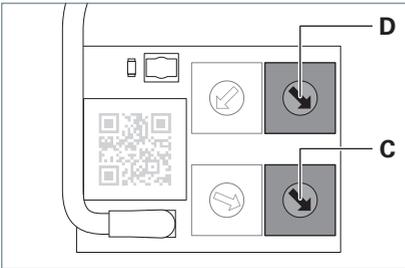

Fig. 7: Two rotary coding switches for group assignment.
- ▶ To assign the luminaire to exactly one group, set the two rotary coding switches **C** and **D** to the same group address, see Fig. 7.